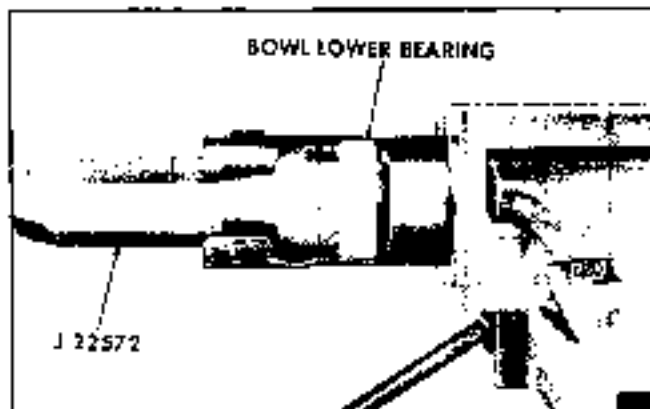

Fig. 9-19 Installing Lower Bowl Bearing
3. Install lower shift bowl bearing by pressing into jacket with tool J 22572 (Fig. 9-19).